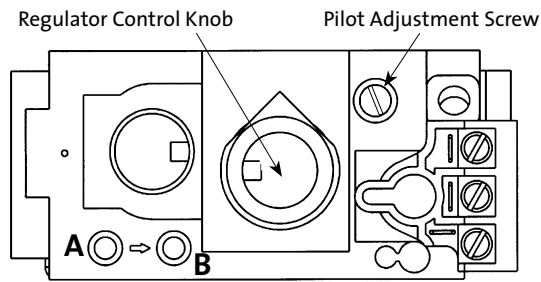

Figure 7.2. Valve pressure test points and pilot adjustment.
**Pressure Test:** Attach a manometer to the appropriate test point on the valve. See fig. 7.2. The gauge connections are located on the front of the valve. Connections are identified by: